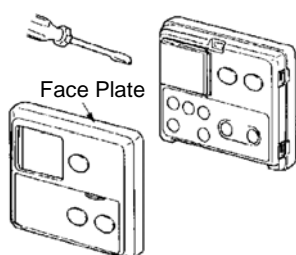

Fig. 2
- Carefully remove face plate from Remote Control, using a screw driver. (Fig. 2)